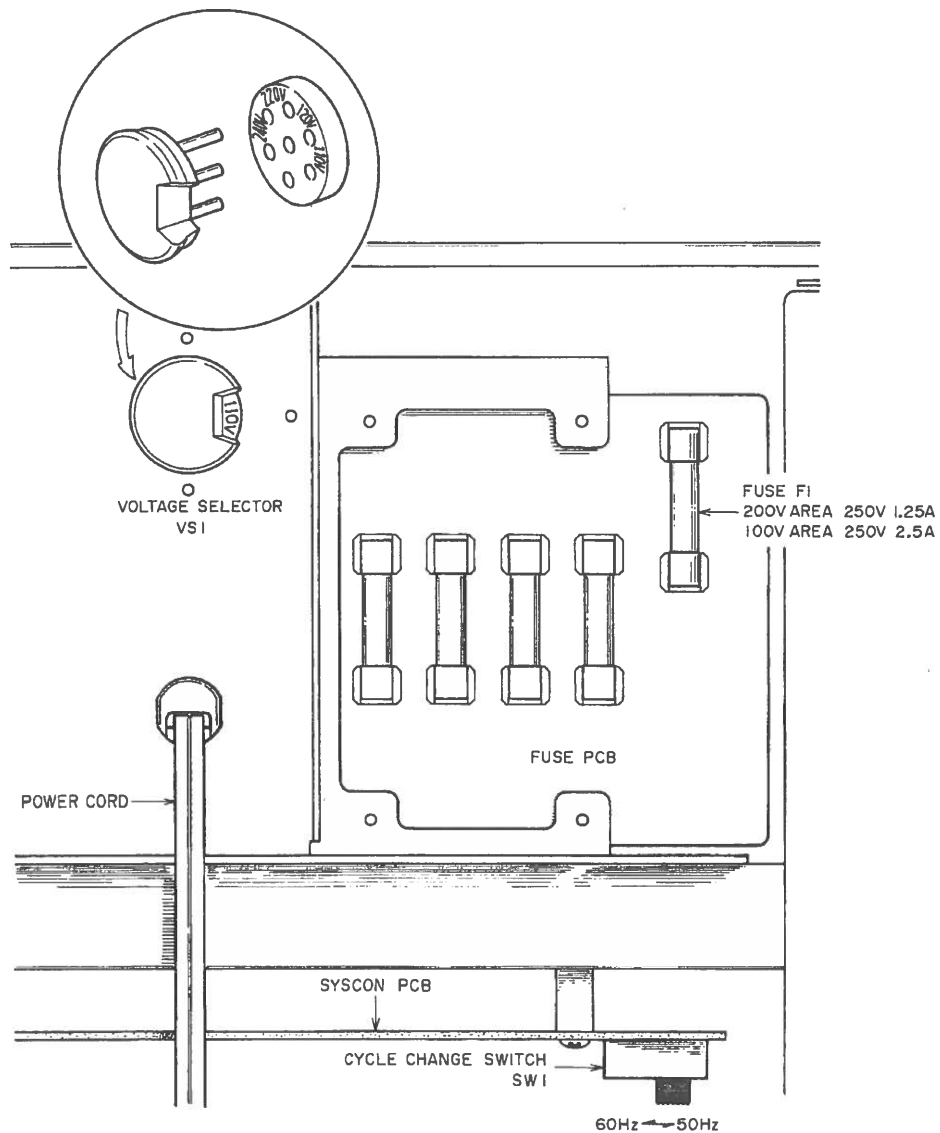

Fig. 2 Voltage Conversion (U/T Model) and Cycle Conversion (U/T, JPN Model)
**2. CYCLE CONVERSION (Refer to Fig. 2)**